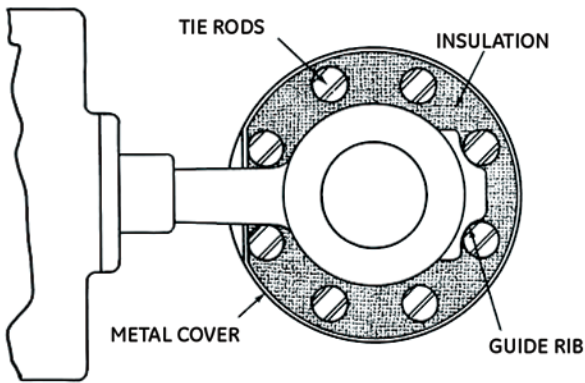

Figure 2
5. Where insulation of the valve body is required, do not insulate the valve bonnet. Figure 2 shows a recommended method for insulation.